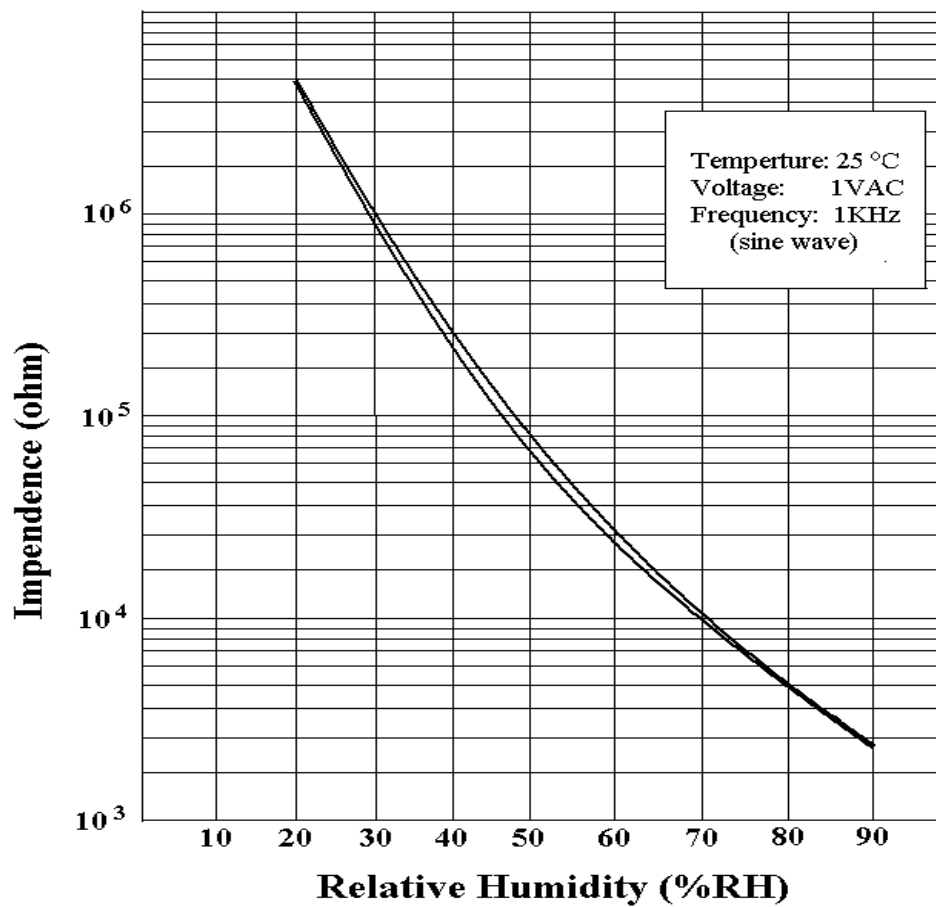

Fig.3 Hysteresis Loop
- 13) Hysteresis loop : Show in Fig.3